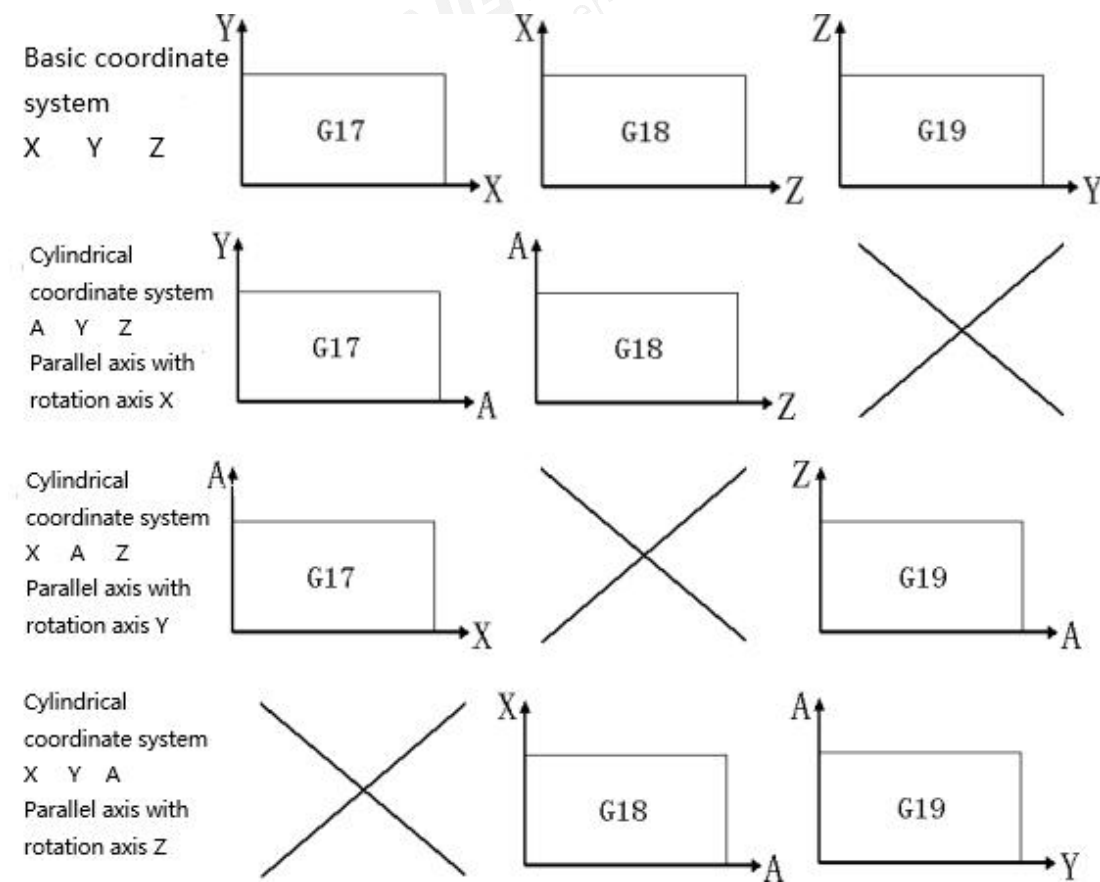

Figure 2-16: Cylindrical Interpolation - Plane Selection.
3. The plane selection using G17-G19 codes determines the linear axis specified as the rotary axis for that plane. The plane selection is shown in Figure 2-16 (taking axis A as the rotary axis, for example).